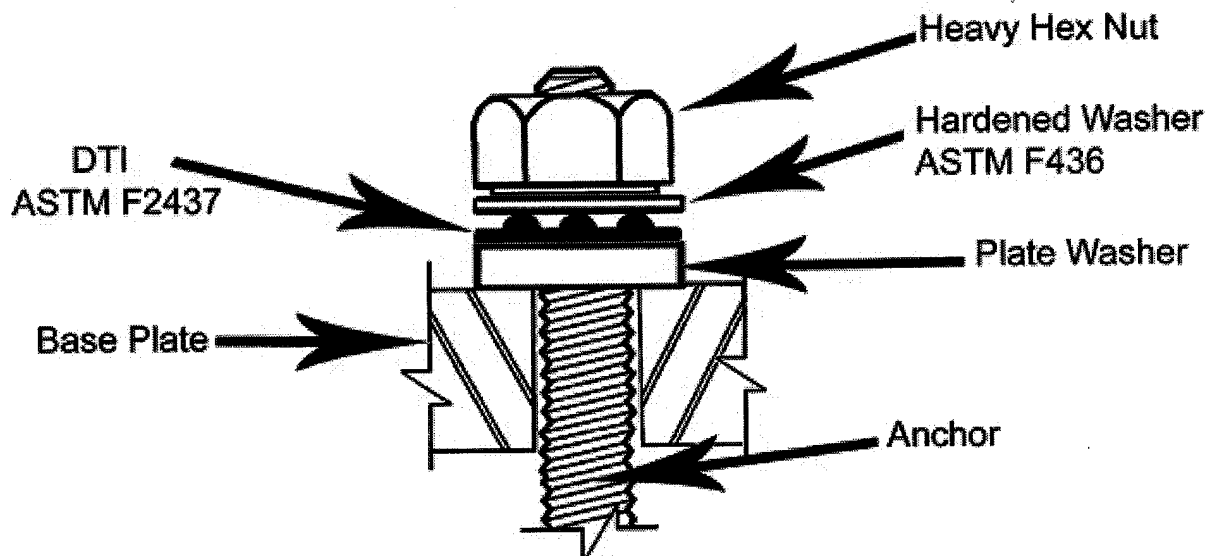

Figure 3
- (1) The DTI must be adequately supported under the side with the 'pockets'. This may be accomplished by placing the DTI over washers or plates with normal sized holes, that is, 1/16in larger than the anchor size. Adequate support of the DTI may also be accomplished by placing the bottom of the DTI against the heavy hex nut or, if applicable, a bolt head.
- (2) The protrusions or 'bumps' on the DTI must be placed against a hardened surface such as against an F436 washer, against a hardened nut or a bolt head. (Figure 3 below depicts a common assembly configuration.)
Figure 3 depicts an optional plate washer (or extra thick flat washer) as would be used to cover an oversized hole in a base plate. If the hole in the base plate for the anchor is 'normal size' (i.e. 1/16in over the nominal size of the anchor) then such a washer is not necessary. Similarly, if the design calls for a hardened washer to be placed on the base plate under the DTI as shown in Figure 3, the inside diameter of the hardened washer should be 1/16in larger than the anchor size. TurnaSure LLC can help in the procurement of suitable hardened washers for use in anchor assemblies.